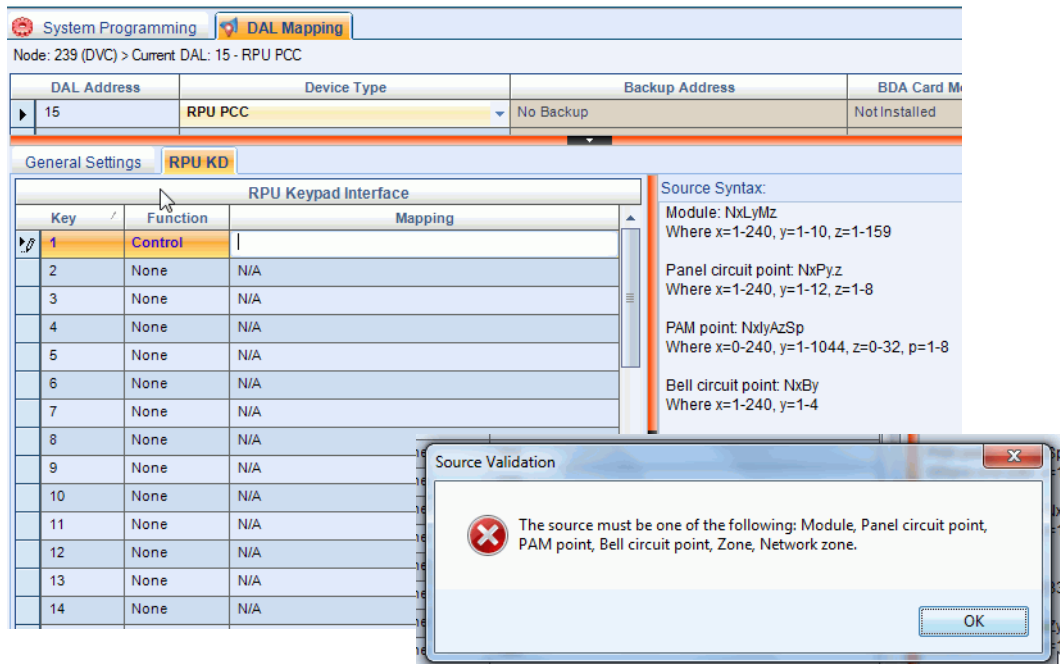

Figure 4.9 DAL Mapping - RPU-KD Keypad Assignment
- **MAPPING** - Enter an address to be controlled, monitored, or disabled as set in the Function field. This must be the address of a specific module, detector, panel circuit point, zone, DAL speaker circuit, or PAM point. VeriFire Tools will validate the mapping's syntax and source type on entry. Once a Function type is selected, the right side of the screen will display a summary of correct syntax (relevant rules for mapping an appropriate device). The settings will be shared with all the DVC-RPUs connected to the DAL network at the network node address. The syntax for each type of entry is in Table 4.1 below; this is also available on the right side of the VeriFire Tools screen as shown in Figure 4.9.